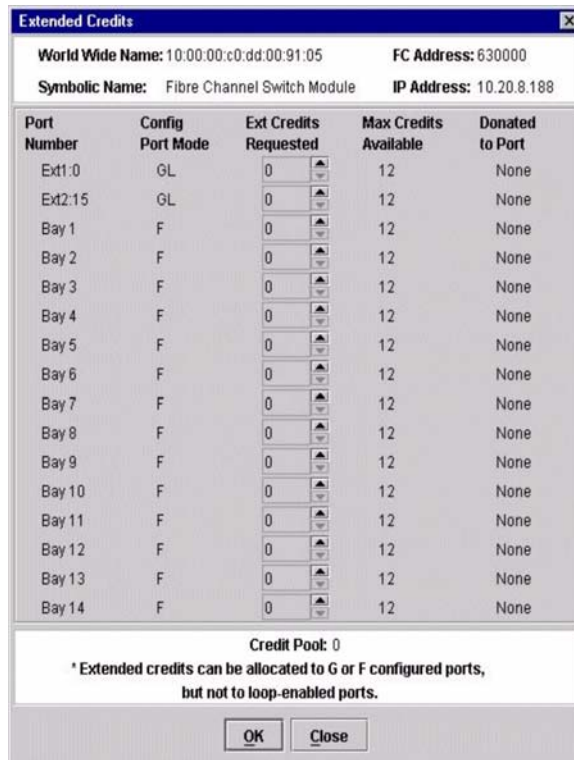

Figure 20. Extended Credits window
2. In the Faceplate window, select the recipient port. Recipient ports must be external ports configured as G_Ports or F_Ports. Click **Port / Extended Credits**. The Extended Credits window opens as shown in Figure 20